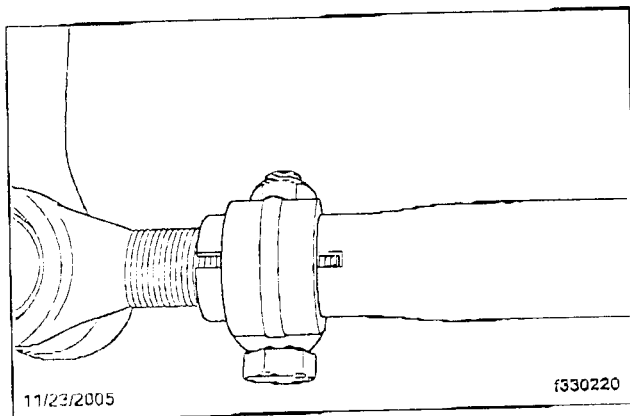
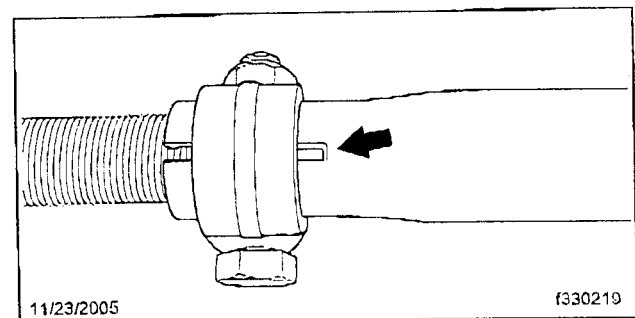

Fig. 1, Correct Tie Rod Thread Engagement
Fig. 2, Incorrect Tie Rod Thread Engagement
3. Inspect the tie rod for correct thread engagement. There must be threads showing the full length of the slot. See Fig. 1 and Fig. 2.
13. Verify that you cannot see through the slots in the tie rod tube. See Fig. 1 and Fig. 2.